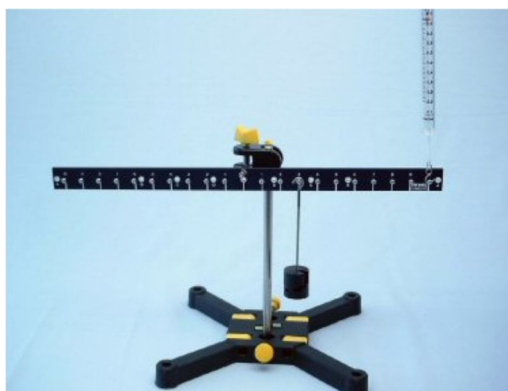

Fig. 7
- Hang the mass successively on the 7, 5, 3 and 1 marks on the right side (Fig. 7) and read the measured value  $F$  for each position. Record all the measured values in Table 1 on the Results page.